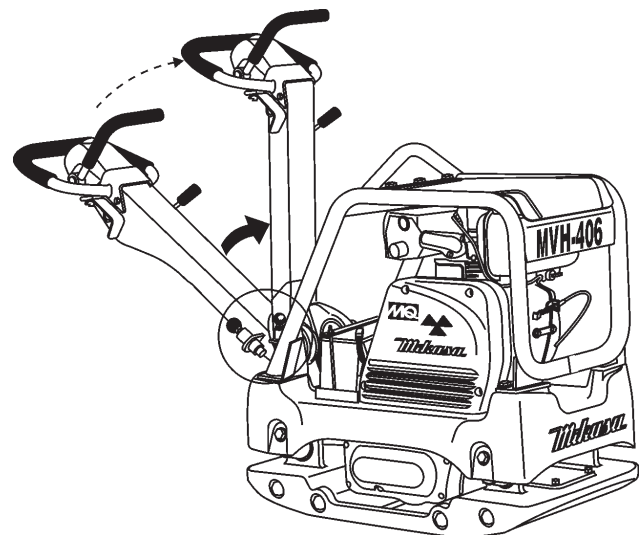

Figure 25. Stowing the Handle
1. Push up the handle upward (Figure 25) until the handle locks in place.